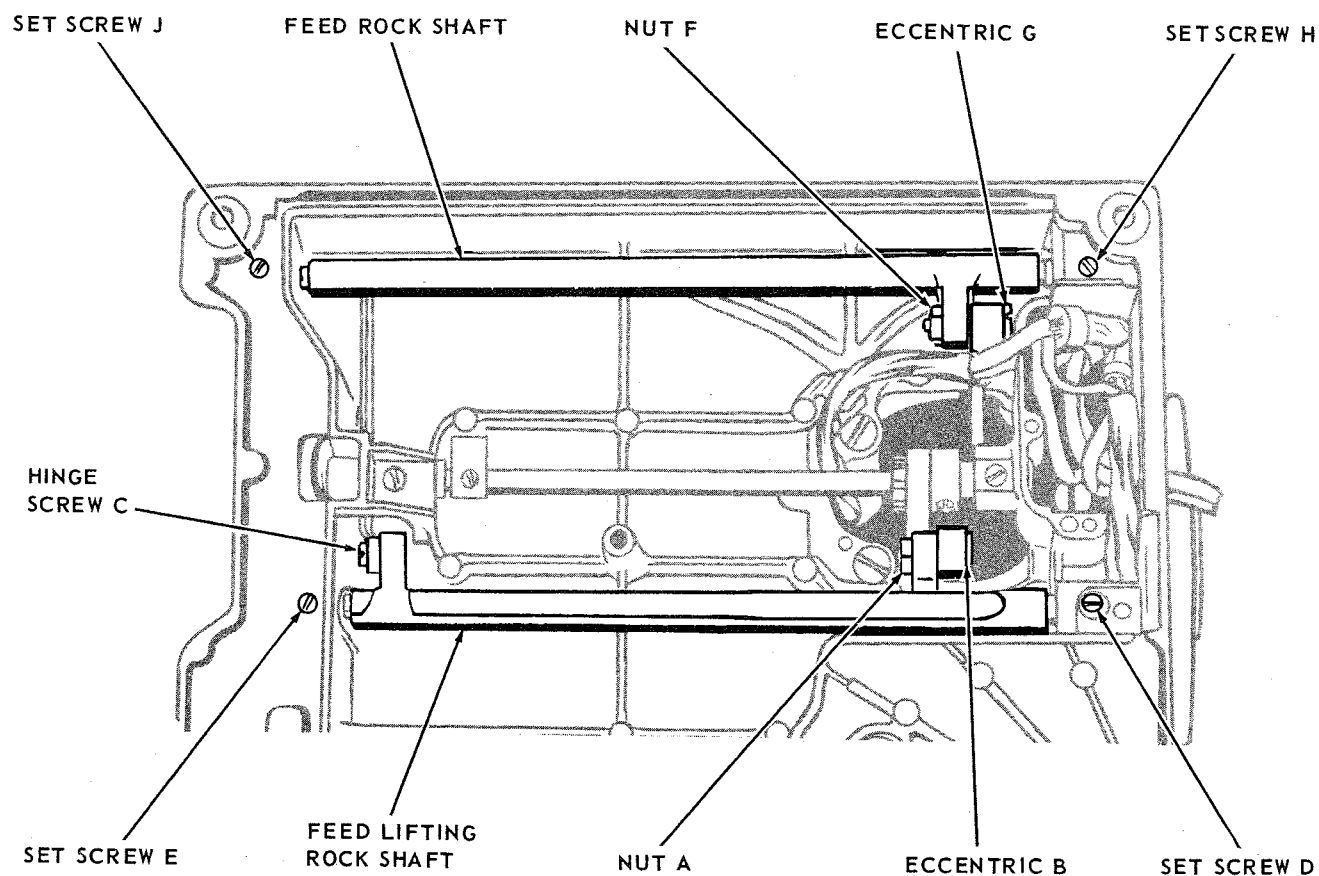

Fig. 43. Removing and Replacing Rock Shafts
2. Remove nut **A** and eccentric **B**, Fig. 43, disengaging feed lifting rock shaft from feed connecting rod.
2. Remove nut **F** and eccentric **G**, Fig. 43, disengaging feed rock shaft from feed forked connection.